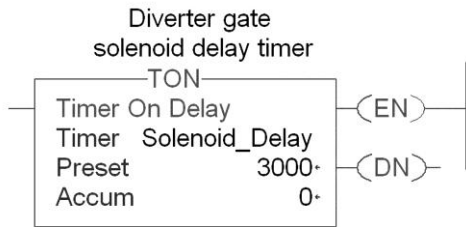

Figure 15-23 Timer instruction for question 3.
- 3-1. The timer tag name for the timer shown in Figure 15-23 is 3-1. _____